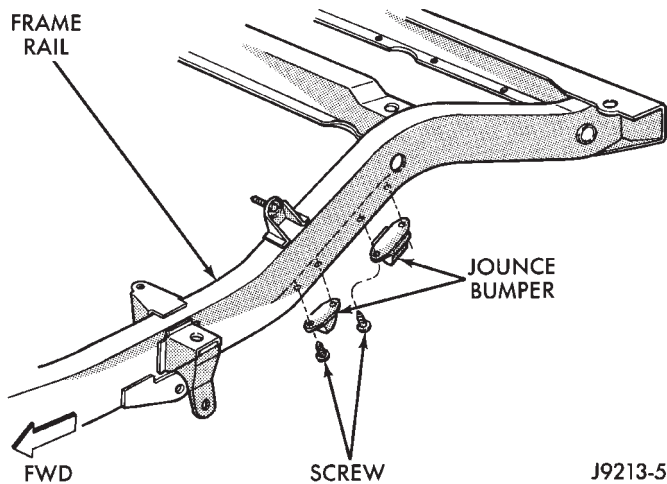

Fig. 12 Rear Jounce Bumpers
(1) Remove the screws that attach the jounce bumper to the frame rail (Fig. 12).